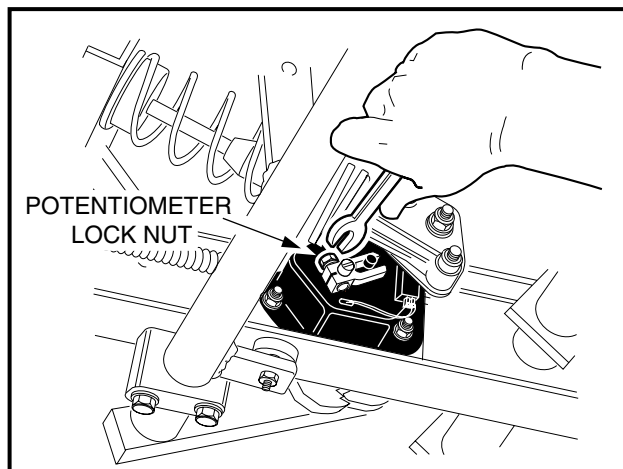

Figure 5-27 Loosen Potentiometer Lock Nut
- 5.10. Loosen the potentiometer adjustment lock nut (**Figure 5-27, Page 5-26**).